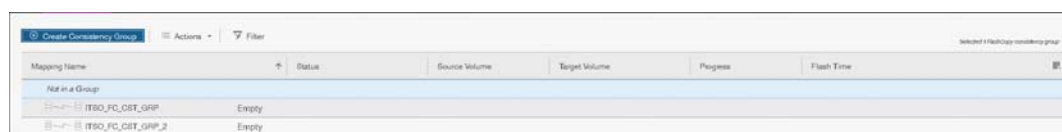

Figure 10-41 Consistency Group selection
2. Select in which Consistency Group you want to create the FlashCopy mapping. If you prefer not to create a FlashCopy mapping in a Consistency Group, select **Not in a Group** as shown in Figure 10-41.